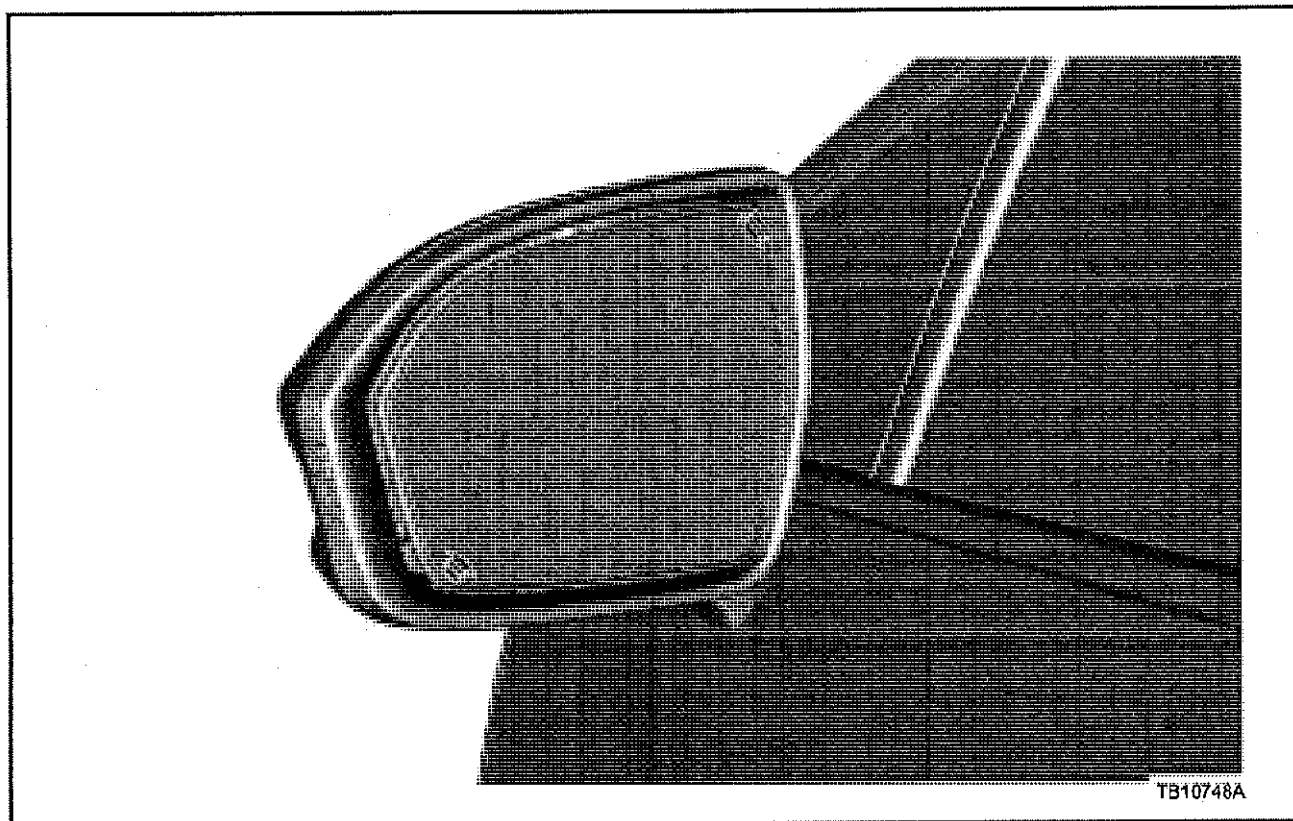

Figure 1 - Article 15-0135
1. Position the exterior mirror glass for access. (Figure 1)